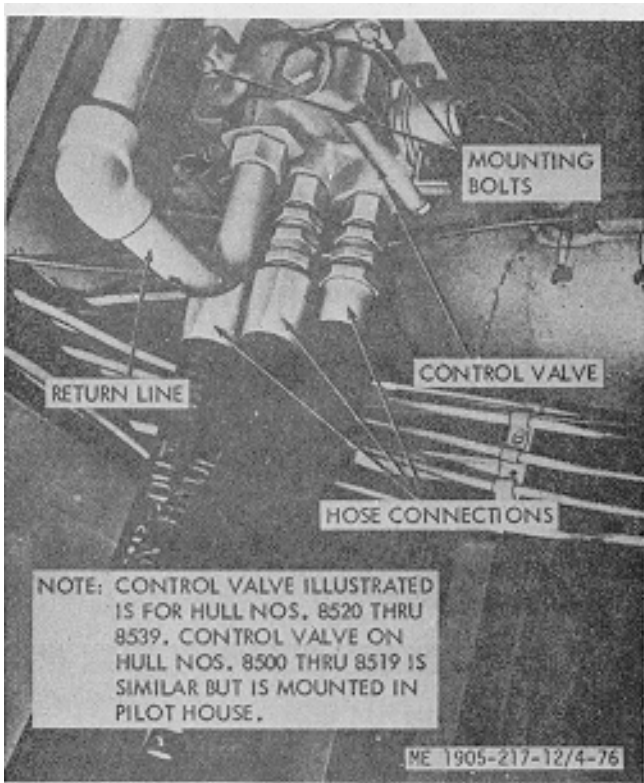

Figure 4-76. Ramp hoist control valve.
*b. Removal (fig. 4-76).*
(1) Clean hose connections, disconnect, and cap open ends. Tag hoses to assure proper reconnection.